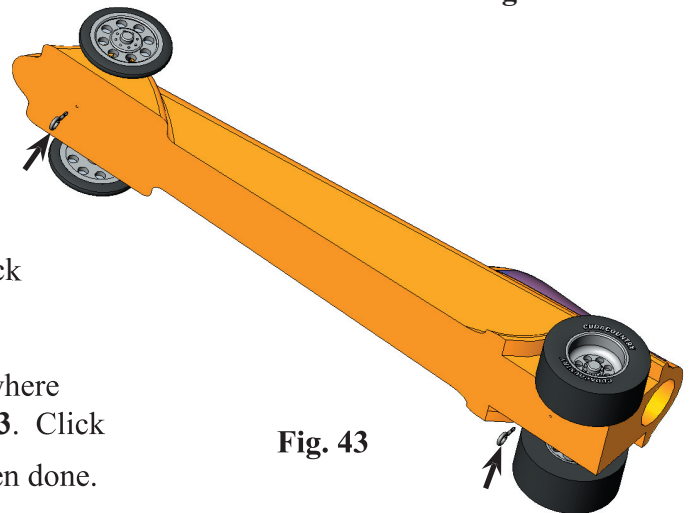

Fig. 43
Step 2. Hold down middle mouse button (wheel) and drag to **rotate view** as shown in **Fig. 43**.
Step 7. Insert two eye screws approximately where the eye screws are positioned in **Fig. 43**. Click OK  in the Property Manager when done.